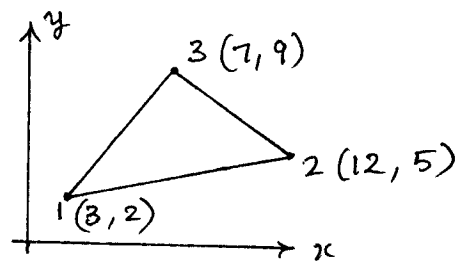

Fig. Q4(b)
- b. Derive the Jacobian matrix for 2-D CST element and thus determine the Jacobian for the triangular stiffness element shown in the Fig. Q4(b). (10 Marks)